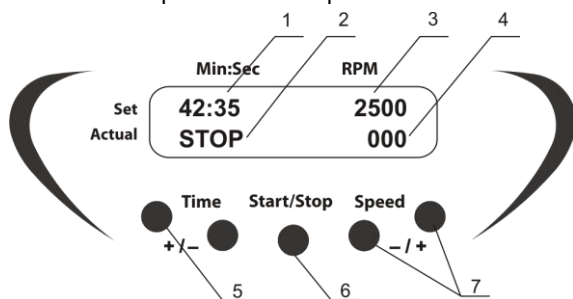

Fig.1. Control panel
- 4.4. Use the **+** and **- Speed** keys (Fig. 1/7) to set the required speed (increment - 100 rpm). Holding down the key for longer than 2 s increases value change speed. The set value is displayed in the upper line of the display (Fig. 1/3).
- 4.5. Use the **+** and **- Time** keys (Fig. 1/5) to set the required working time interval in min & sec (increment - 1 min). Holding down the key for longer than 2 s increases value change speed. The set value is displayed in the upper line of the display (Fig. 1/1).
- 4.6. Press the **Start/Stop** key (Fig. 1/6). The platform will start vortexing and the timer indicator will start counting up the time interval in the lower line of the display - **Actual** (fig.1/2).
- 4.7. If the working time is not set (or is reset) and the display shows 00:00, pressing the **Start/Stop** key will cause the unit to operate continuously until the **Start/Stop** key is pressed. Actual value of the platform speed is displayed in the lower line of the display (fig.1/4)
- 4.8. After finishing of the program (after the set time elapses) the platform motion will stop and flashing reading "STOP" will appear in the lower line of the display accompanied by the repetitive sound signal until the **Start/Stop** (fig.1/7) key is pressed.